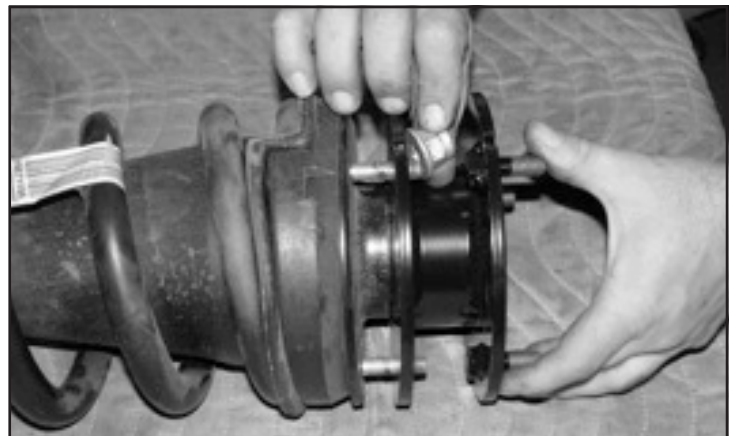

FIGURE 34 - STEP 34
34. Install the FT20801 coil spacer using the factory nuts and torque to 30 ft-lbs. **SEE FIGURE 34. NOTE: If installing on a vehicle equipped with Magna-Ride suspension you will need to route the wire through the new Fabtech spacer.**